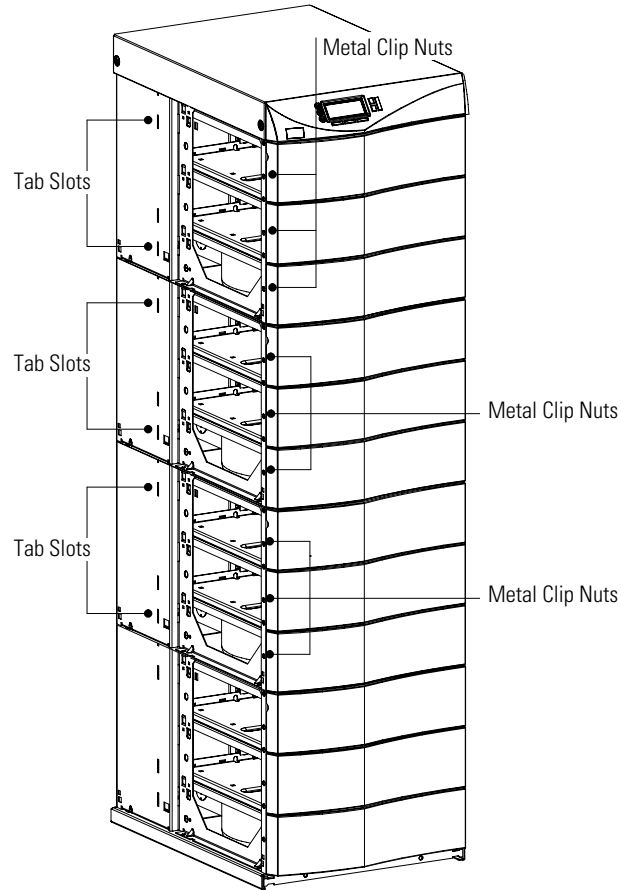

Figure 1. Metal Clip Nut and Tab Slot Locations
4. Install six metal clip nuts (nine clip nuts for 12-slot cabinets) onto each side flange along the front of the cabinet (see Figure 1).
Insert the two offset tabs on the rear edge of the ear into the matching tab slots on the cabinet side frame (see Figure 1). Pivot the ear forward until it is flush against the cabinet side frame. Secure each ear with three 1/4-20 × 1/2" Phillips-head bolts; screw the bolts into the metal clip nuts installed in Step 4.